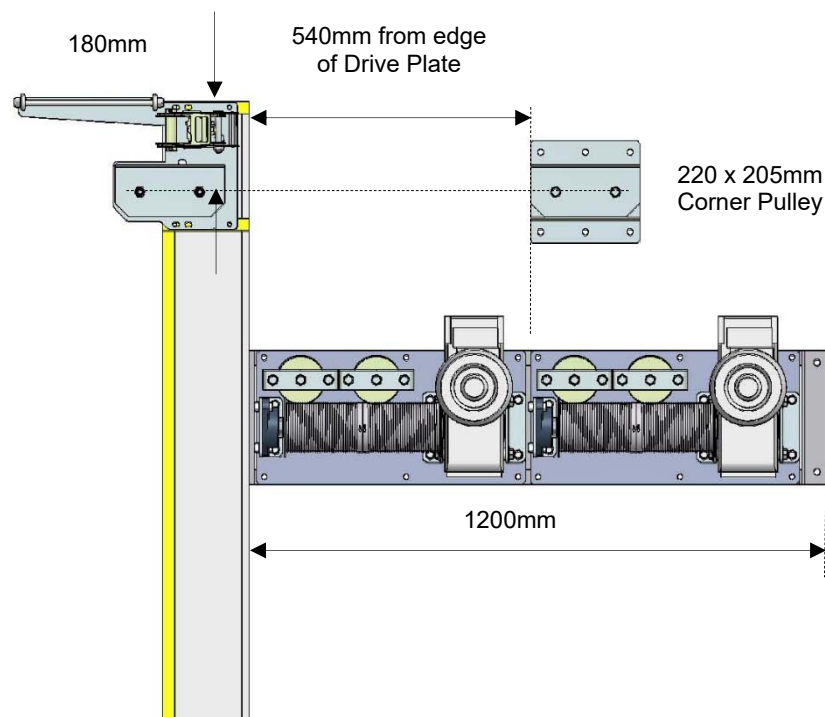

Figure 27
9.3 Additional Corner Pulley replacing Section 2.2: Referring to Figure 27 fasten Corner Pulley ensuring the distance from the edge of the Drive Plate is 540mm. Four M10 x 50 Bolts are supplied to secure Corner Pulley plates to a metal surface up to 25mm thick. (i.e. Plate, Channel, H-Beam, etc). Customer needs to supply own fastenings if securing to wood or concrete. Ensure the mounting surface can withstand the maximum door weight of 350kg.